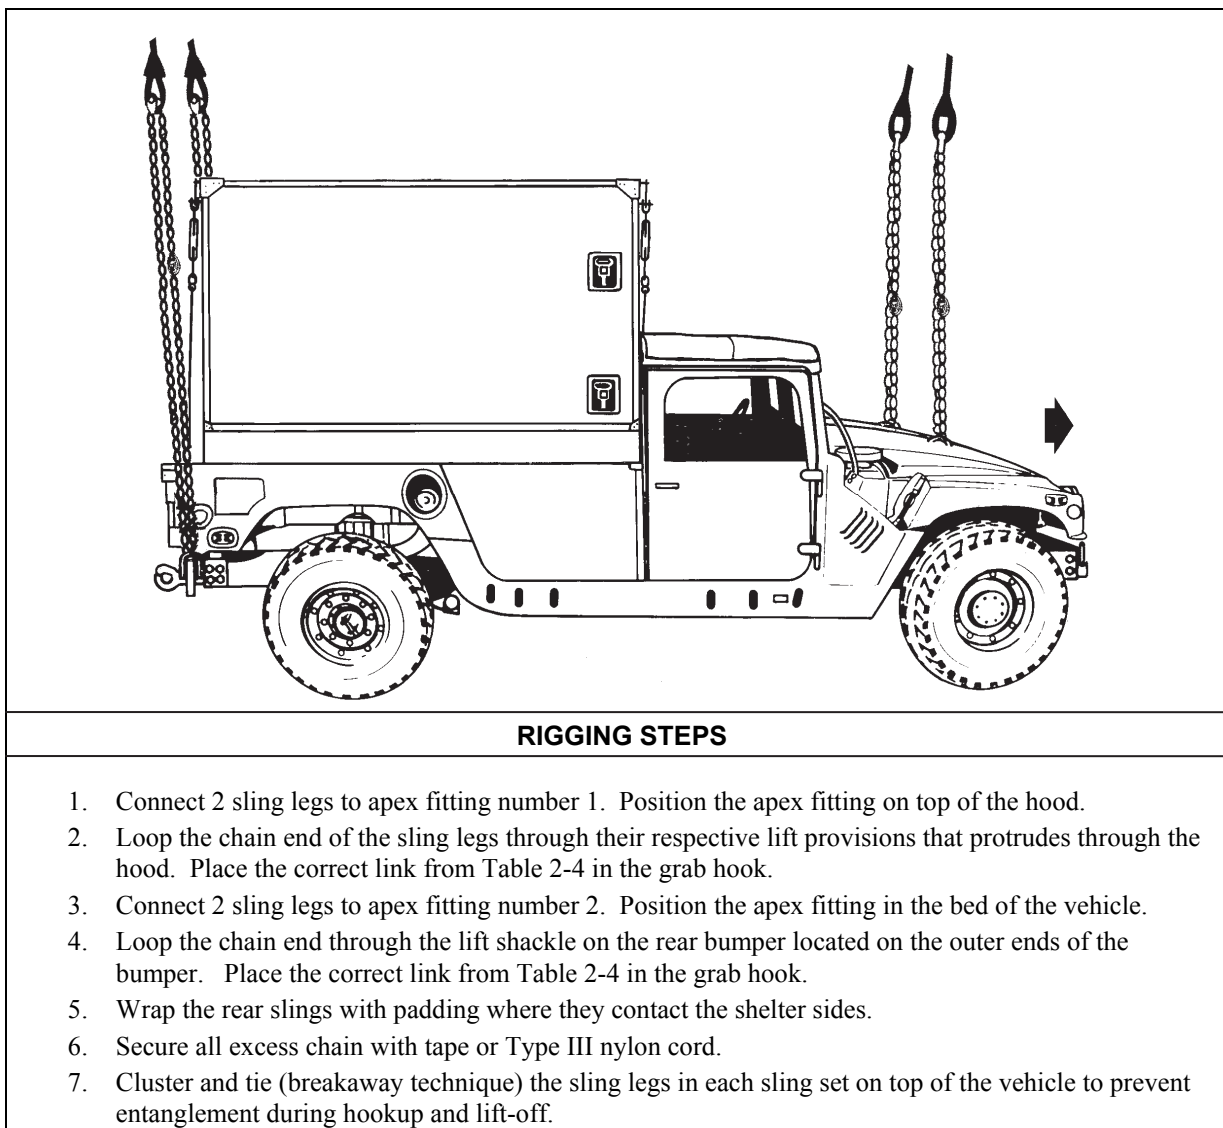

Figure 2-4. M1037 Shelter Carrier with S-250 or S-250E Shelter
- **Rigging.** Rig the load according to the steps in Figure 2-4.